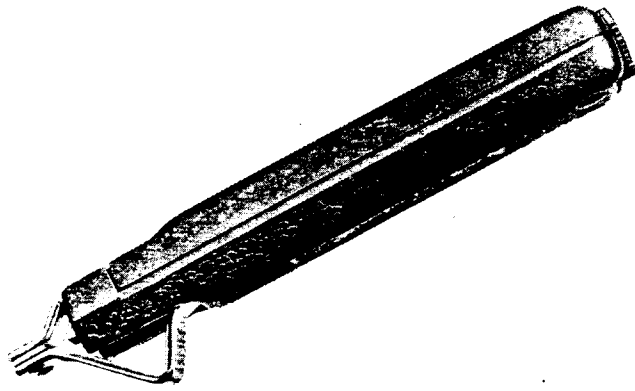

Fig. 5—No. 45-128 Sheath Stripper
- (b) Sheath Stripper, No. 45-128 (Fig. 5)